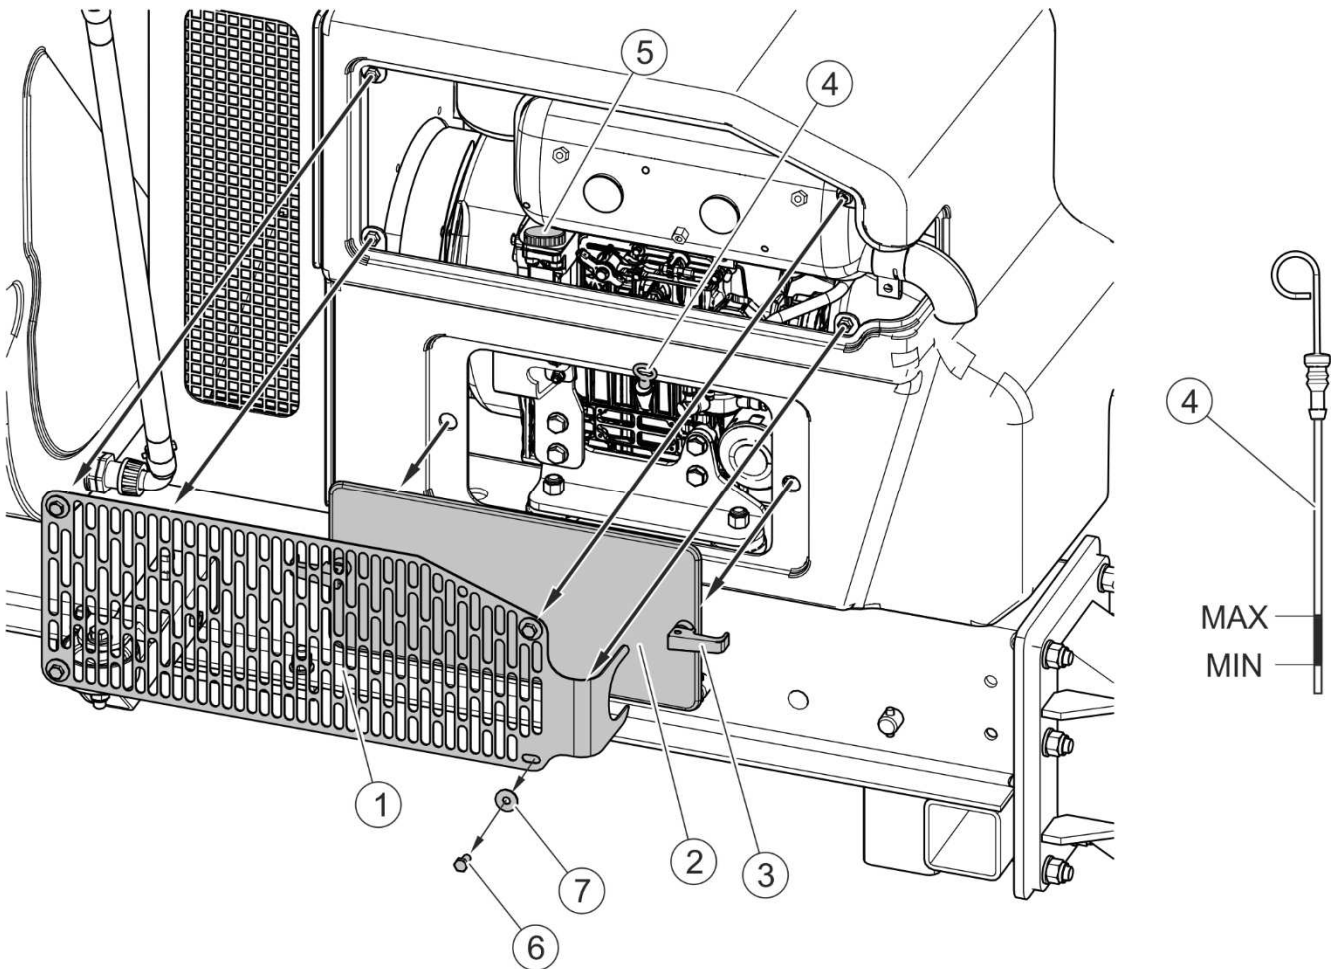

FIGURE 4.3 Checking engine oil level
- Unlock the locks (3) and remove the engine shields (2) (FIGURE 4.3).
- Take out oil dipstick (4) and wipe it until dry.
- If engine oil level is too low, remove the muffler shield (1), unscrew filler plug (5) and add proper amount of oil.
- Tighten the filler plug (5) and insert the oil dipstick (4).